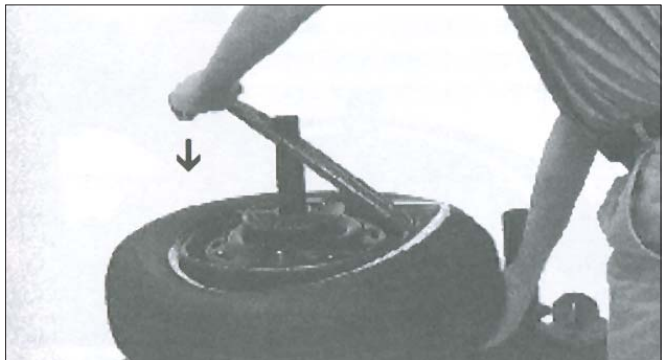

Figure 7 - Tool Properly Positioned
**9.** Continue to push down on the tool until the center post key protrudes through the slot in the tool and the tool stops against the shoulder of the key. The tool is now positioned properly for operation of the center post key (figure 7). Keep a firm hold on the tool at all times to prevent accidental disconnect.